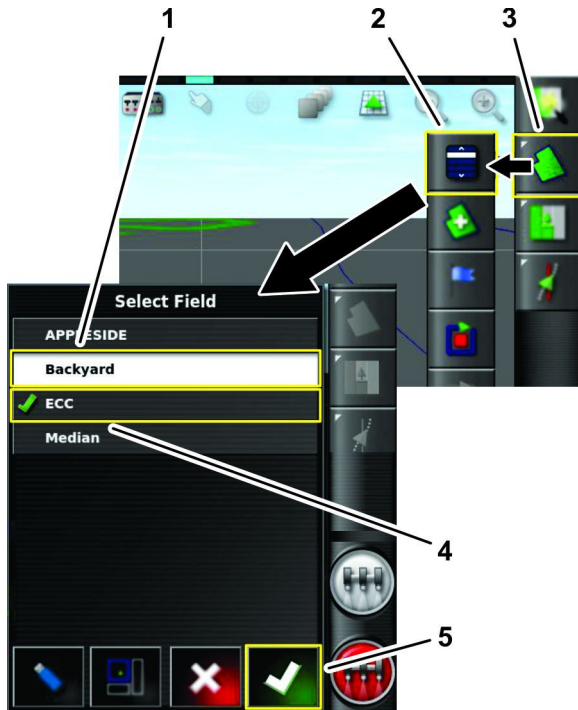

Figure 35
1. Press the Field Menu icon, and press the Select Field icon (Figure 35).
2. In the select field list, press the Field icon for the field you are spraying, and press the confirm icon (Figure 35).